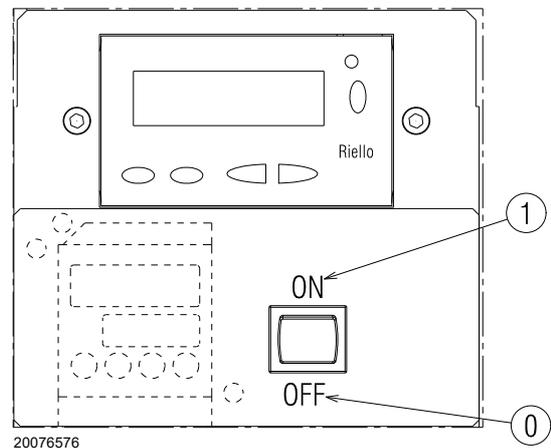

Fig. 28
Close the thermostats/pressure switches and set the switch of Fig. 28 to “1/ON”.
- put the switch of Fig. 28 to “0/OFF” and wait until the control box carries out the switching off phase;